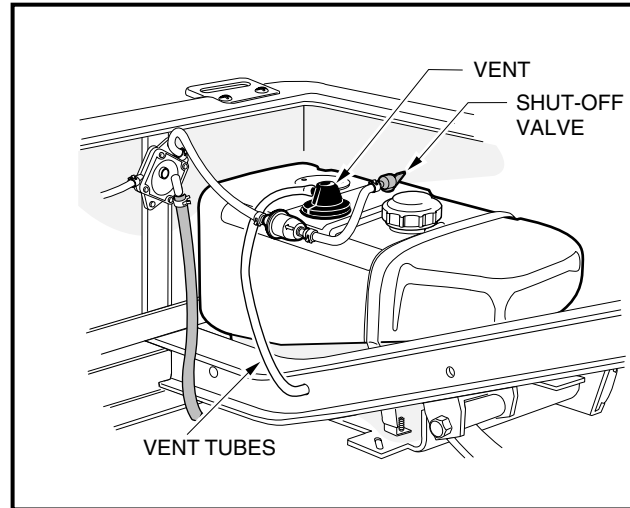

Figure 17 Gasoline Tank
- If the vehicle has an all-weather enclosure installed, be sure the gas tank is properly vented as shown (Figure 17, Page 26).